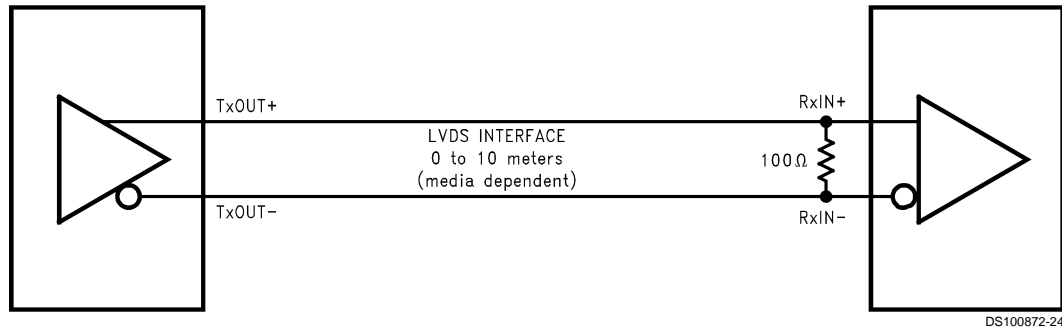

FIGURE 10. LVDS Serialized Link Termination
**TERMINATION:** Use of current mode drivers requires a terminating resistor across the receiver inputs. The CHANNEL LINK chipset will normally require a single 100Ω resistor between the true and complement lines on each differential pair of the receiver input. The actual value of the termination resistor should be selected to match the differential mode characteristic impedance (90Ω to 120Ω typical) of the cable. *Figure 10* shows an example. No additional pull-up or pull-down resistors are necessary as with some other differential technologies such as PECL. Surface mount resistors are recommended to avoid the additional inductance that accompanies leaded resistors. These resistors should be placed as close as possible to the receiver input pins to reduce stubs and effectively terminate the differential lines.